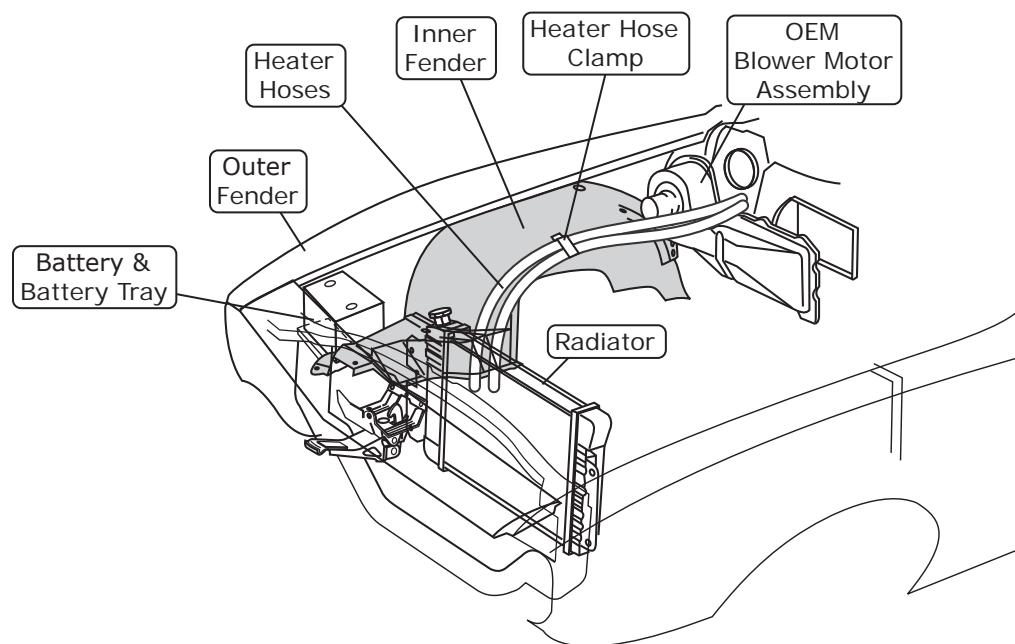

Figure 1
2. Remove the battery and battery tray (retain) (See Figure 1, below).
4. Remove the OEM heater hoses (discard) (See Figure 1, below).
5. Remove the OEM blower motor assembly (See Figure 1, below). **NOTE:** To remove the blower assembly (under hood) and the air distribution system (under dash), the factory manual recommends the following: Remove the right lower rocker molding. Remove the fender attaching bolts. Remove the skirt-to-fender and skirt-to-reinforcement screws. Pull out on the lower portion of the fender, moving the skirt away from the fender flange and firewall. Block the skirt with a 2" x 4" block of wood. To avoid damage to the paint and sheet metal, and for ease of removal and replacement of components, Vintage Air recommends that the right fender be removed, and the inner panel lowered. Removing the right front tire will provide easier access to the inner fender bolts.